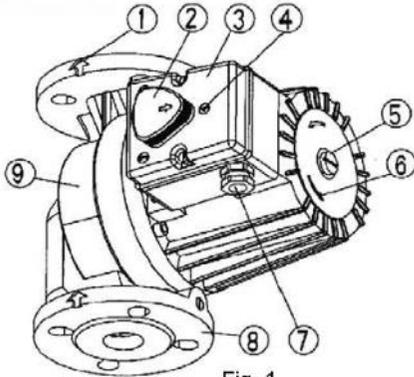
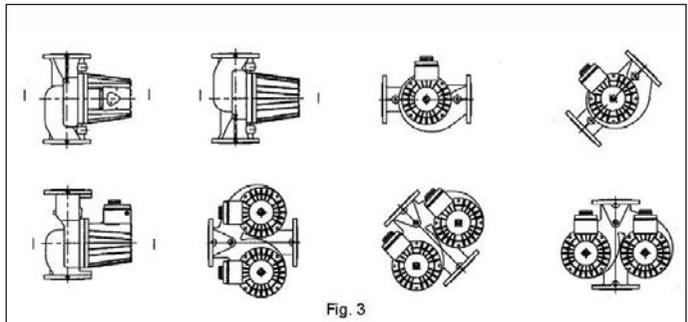
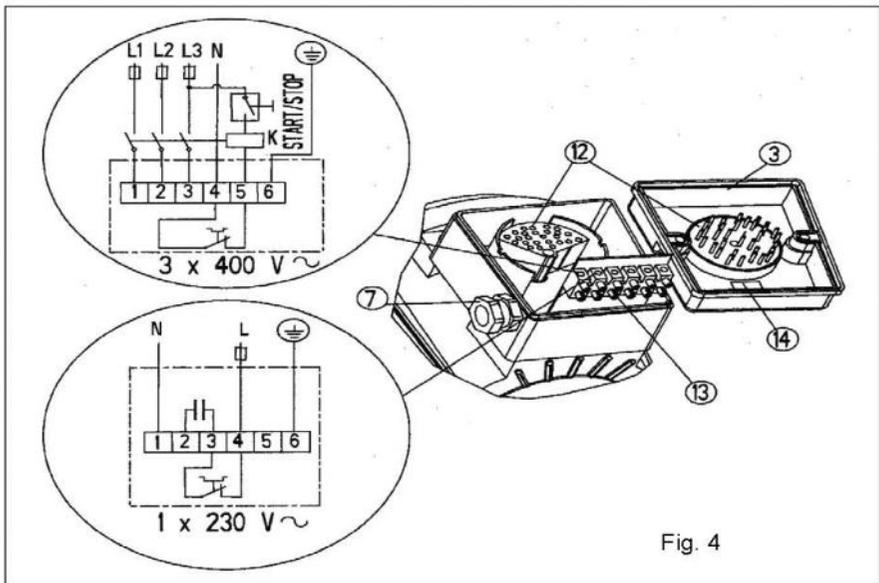

Fig. 1
Fig. 3
Fig. 4
The pump has to be installed into the piping system with the pump axis 1-1 in horizontal position (Fig. 3). It has to be installed into the straight piping section having the length of at least 5-10 D (D = nominal diameter of the pump tube) from the knee. This will ensure its operation with minimum vibration and noise. The direction of water flow through the pump must match the direction indicated by an arrow on the pump casing (Fig. 1 – Pos. 1).
The connecting flanges are NP 6/10 (Fig. 1 – Pos. 8).
The NC and NCM pumps have a single hydraulic casing (Fig. 1 – Pos. 9).
The connecting wire has to be connected over a cable entry Pg 16 (Fig. 4 – Pos. 7), and has to be "T" version due to the pump warm-up being higher than 50K.
The electrical connection of pumps has to be carried out according to the wiring diagram (Fig. 4 – Pos. 14) that is glued on the motor cover (Fig. 4 – Pos. 3) up to the connecting terminals (Fig. 4 – Pos. 13).
In Fig. 4, Pos. 12 a male and female parts of connector are designated, they are put together when the pump is operating.
Each pump is able to cover three hydraulic fields, and for this reason such pumps are provided with electric motors for three different speeds. The characteristics or speed desired (3, 2, 1) can be selected using the connector marked with an arrow (Fig. 1 - Pos.2).
- Pull out the button of the three-position connector (Fig. 1 – Pos. 2) on the electric motor cover (Fig. 1 – (Pos. 3), rotate it to the speed desired (1, 2, 3), and push it down to end stop.
With the pumps of types NC, NCD (NCM, NCDM) the rotor of electric motor is submerged and provided with water-lubricated bearings. Before putting the pump into operation, it has to be filled with water and deaerated. Deaerate the pump by unscrewing a screw on the back side of the electric motor (Fig. 1 – Pos. 5). Air will flow out through the cleft between the motor shaft and bearing. When water starts to flow out, close the valves at both the suction and pressure side of the pump. Start the pump and check the direction of shaft rotation. It has to match that indicated on the electric motor nameplate (Fig. 1 – Pos. 6). In case of a wrong direction, interchange with the three-phase pumps the phases L1 and L2 (Fig. 4). For single-phase pumps the rotation direction is always correct. When a correct rotation of the pump shaft has been established, tighten the screw (Fig. 1 – Pos. 5), and open the valves at both the suction and pressure side of the pump.